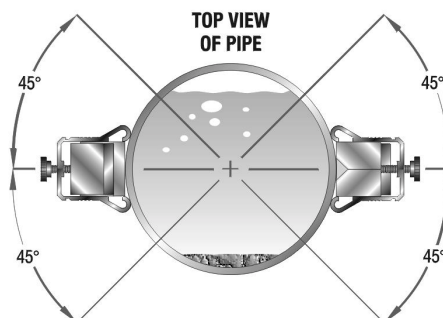

Figure 2.5 Transducer mounting locations on horizontal pipe.
The DTT transducers need to be properly oriented on the pipe to provide optimum reliability and performance. On horizontal pipes, the transducers should be mounted 180 radial degrees from one another and at least 45 degrees from the top-dead-center and bottom-dead-center of the pipe. See Figure 2.5. Figure 2.5 does not apply to vertically oriented pipes.
Crease the paper at the fold line. Mark the crease. Place a mark on the pipe where one of the transducers will be located. See figure 2.5 for acceptable radial orientations. Wrap the template back around the pipe, placing the beginning of the paper and corner in the location of the mark. Move to the other side of the
1. Install the single mounting rail on the pipe in a orientation suggested by Figure 2.5 (minus the rail mounted across the pipe) with the stainless steel bands provided. Orientation on vertical pipe is not critical. Ensure that the track is parallel to the pipe and that all four mounting feet are touching the pipe.